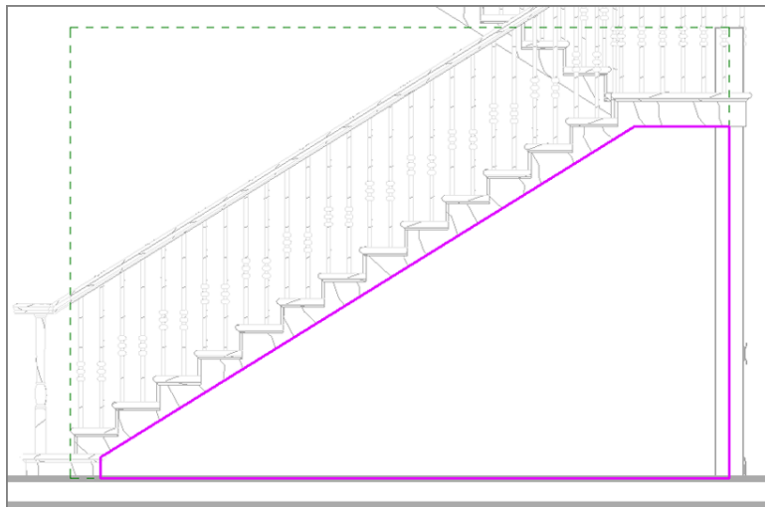

FIGURE 16.14: Cleaning up the lines so that they form a continuous loop
8. Delete the existing top magenta line and the existing left magenta line by selecting them and pressing the Delete key. All you should have left is the profile shown in Figure 16.14.